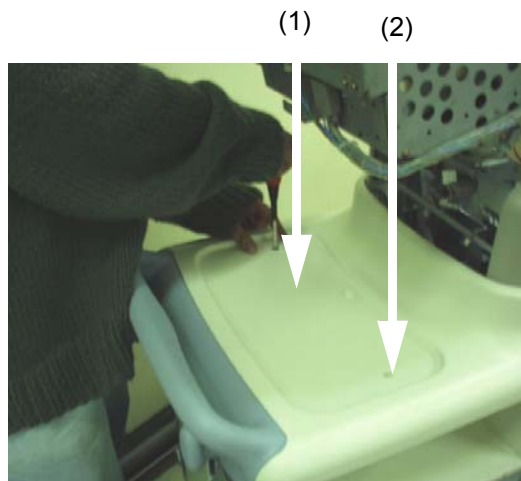

Figure 8-80 Unscrew 2 screws from the Top cover
- 4.) Unscrew two screws (1-2) from the top side of the Top cover. Refer to Figure 8-80 on page 8-35 .